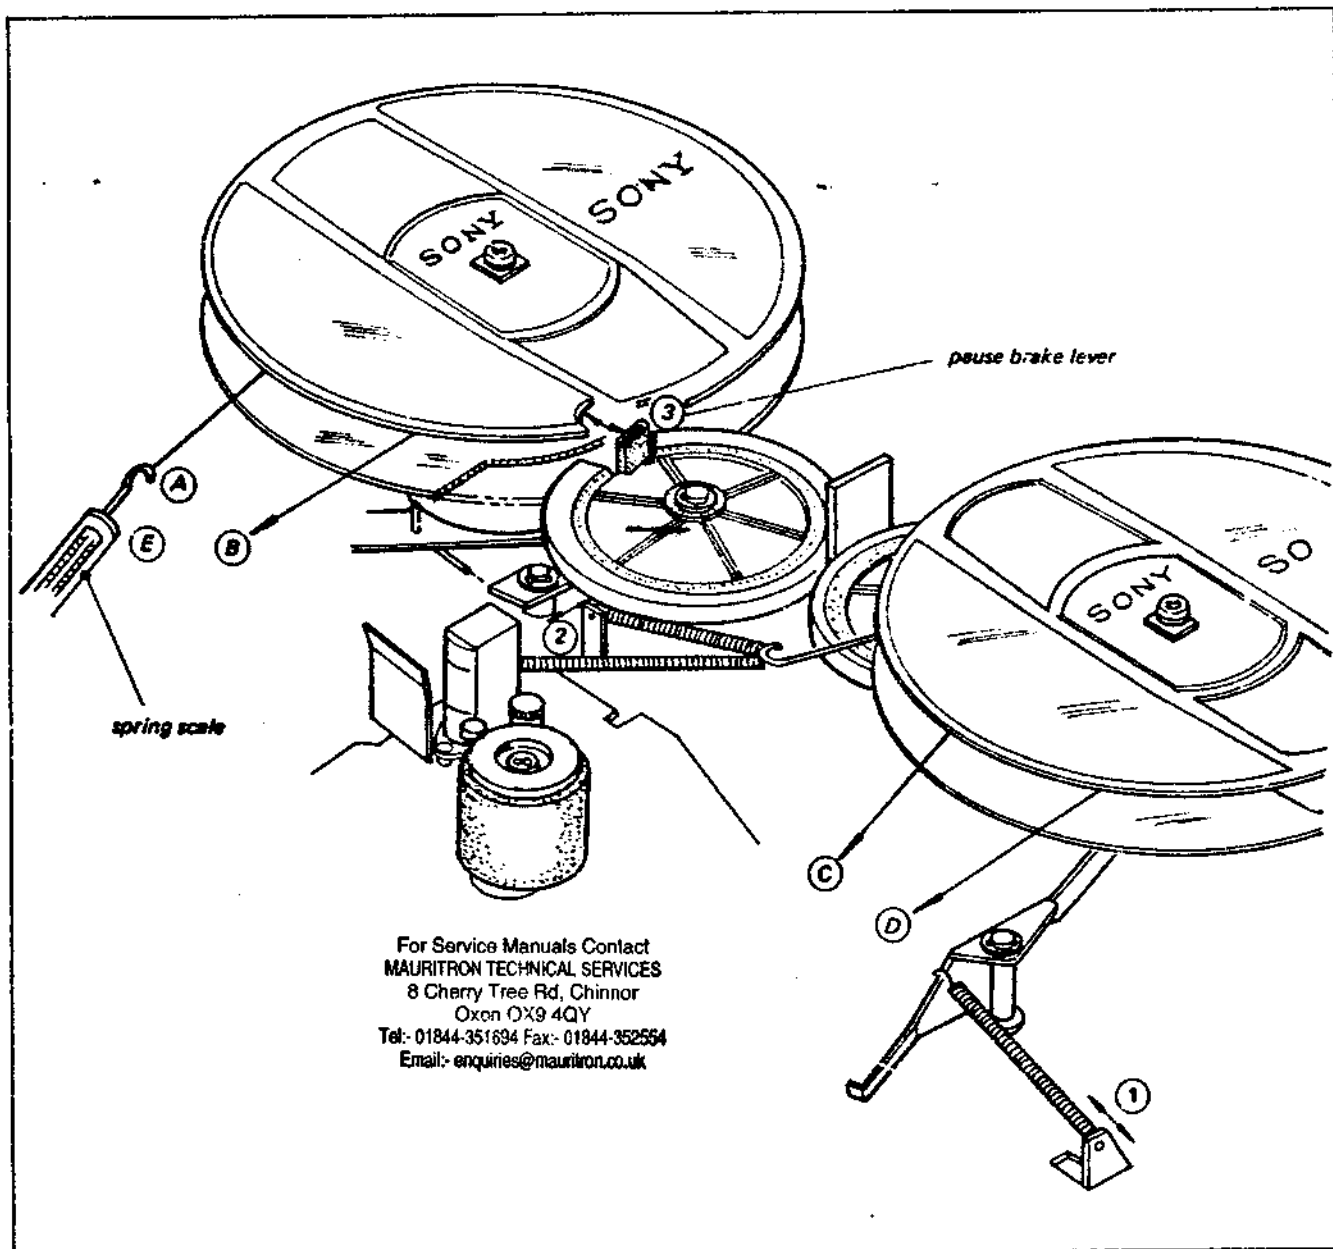

Fig. 4-14. Brake torque adjustment
2. Place an empty reel (RH-7V) with several turns of string wrapped around the hub onto the Supply Reel Table as shown in Fig. 4-14. Tie the reel to the spring scale. Pull the scale at a speed of approximately 4 inches/sec. Check the reading for brake torque. It should be more than 800 g-cm.
3. Repeat the above brake-torque checks for (B), (C) and (D) as indicated in Fig. 4-14. The brake torques should be less than 400 g-cm for the direction of (B) and (C) and more than 800g-cm for the direction of (D).
4. Bend Spring Supporting Brackets (1) and (2) with a pair of pliers, if necessary, to obtain the correct brake torques.
6. Repeat the procedure described in Step 2 for the direction indicated by (E) in Fig. 4-14. It should be more than 800 g-cm.
7. If necessary bend the portion of the Pause Brake Lever identified by (3) with a pair of pliers.